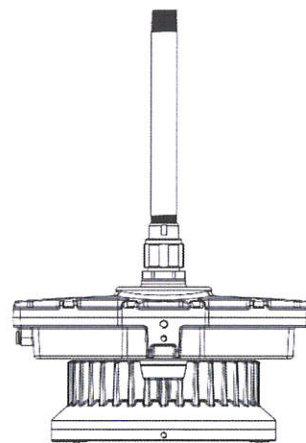

Figure 3
- The mounting type is for the use of straight electrical tube mounting (Figure 3).